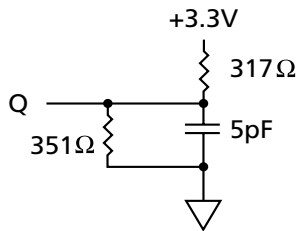
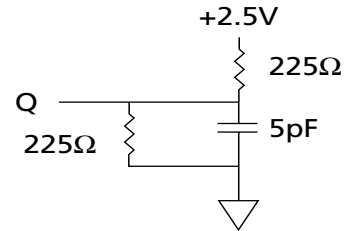

Figure 2
Figure 4
- The load used for V_{OH}, V_{OL} testing is shown in Figure 4 for 2.5V I/O. AC load current is higher than the shown DC values. AC I/O curves are available upon request.
3. This parameter is measured with output load as shown in Figure 2 for 3.3V I/O and Figure 4 for 2.5V I/O.